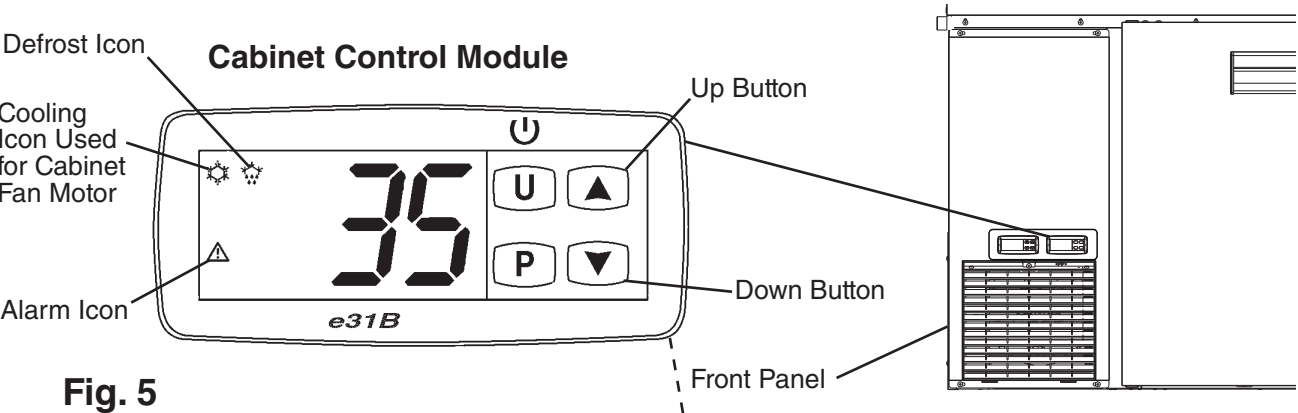

Fig. 5
- a) **Cabinet Temperature Setpoint Adjustment:** The cabinet temperature is displayed on the cabinet fan motor control module. To change the cabinet setpoint, press the up arrow and release. See Fig. 5. SP1 and the current cabinet setpoint flashes. Press the up or down arrow button to the desired setpoint. 5-sec. later, the setpoint is saved and the display returns to normal.